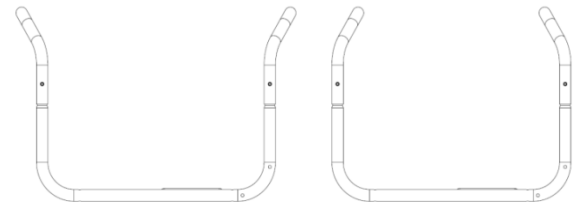

Figure 8: Alternate positions of handles
4. Install the handles #1 in the preferred orientation. Refer to figure 8